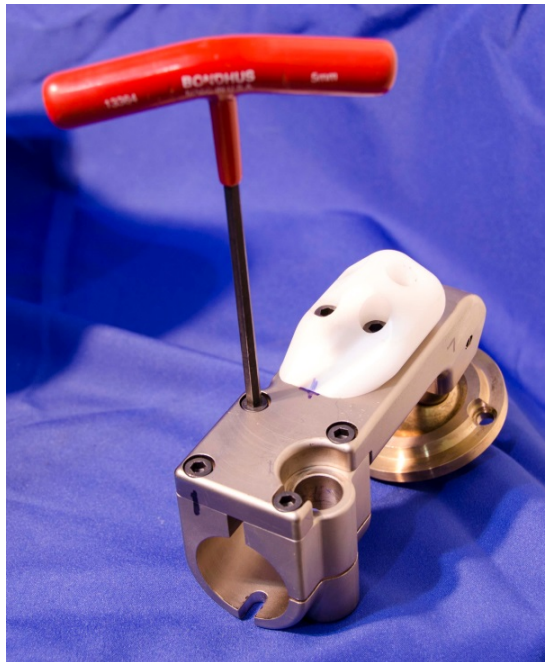

Figure 10-37. Secure hip cylinder to hip arm
10.2.2.24 Secure the Left Hip Cylinder (472-4814-1) to the Left Hip Arm with four M6 x 1 x 16 SHCS (Figure 10-37).